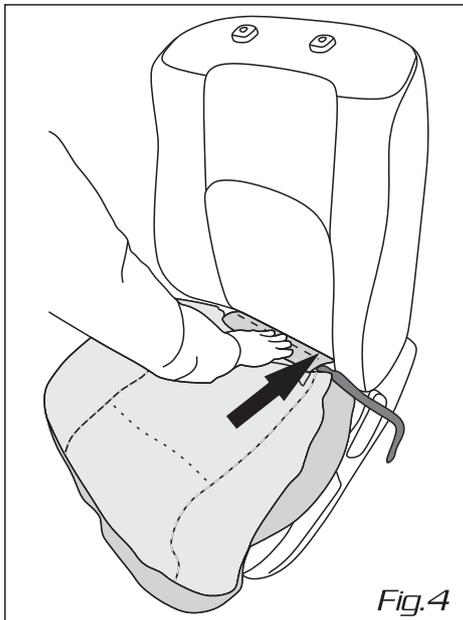

Fig.4
4. Turn The Wet Seat cover inside out then feed neoprene rod flap in between seat backrest and base (Fig.4).